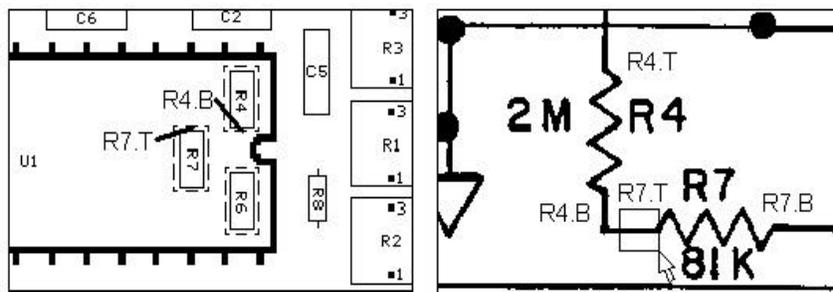

Figure 5. Example Schematic Worksheet and Area Learn Box
**These orientation relationships must be established by the developer for every component or point on the UUT for which a waveform will ultimately be collected.** This will be accomplished through the generation of a SCHEMATIC WORKSHEET. This Schematic Worksheet will consist of a hardcopy of the UUT schematic diagram on which the developer will record (write) the results of the component orientation investigation. An example of a completed Schematic Worksheet with component orientation labels recorded can be seen in Figure 5 below. A convention for recording these component orientation labels has been developed, and is shown in Table 2. When all of the needed points have been defined and labeled on the schematic worksheet, the actual learning of points on the **C:\TESTER\GRAPH01.PCX** file can begin.
**3.2.2 Learning Schematic Pins.** Once all of the component orientation relationships between the Parts Layout and the Schematic Diagram have been investigated, identified, and recorded on the Schematic Worksheet, the Schematic Learn itself is ready to proceed. This is started by double clicking on the **LEARNING THE SCHEMATIC FILE** icon in the **AN/PSM-93(V)** Development Folder in Program Manager (or in the AN/PSM-93(V) Development Folder for WIN '95). This will activate the **C:\WORK2\LRN\_SCM.EXE** file which will load and display the **GRAPH01.PCX** file that the developer generated and previously saved in the **C:\TESTER** directory.
**3.2.3 Defining Pin Areas.** The developer must learn, or define the area of the schematic diagram which will pertain to each pin. This is the area which will become a "hot-spot", or a spot on the schematic that a user will be able to click on when desiring to test this pin. This pin area learn is accomplished by drawing (clicking and dragging) a box at, or around the schematic location in question. (See Figure 5 below).
3.2.4 Assigning Pin Names. Once learned, the developer must give this newly learned area of the schematic a PIN NAME. This PIN NAME needs to be a description of the learned area or pin. For example, in Figure 5 above, the box to the left of R7 on the schematic shows the pin area just learned by the developer. This box on the schematic corresponds electrically to the top of the R7. During the establishment of the relationship between the UUT and the Schematic (see paragraph 3.2.1), the developer determined that this point on the schematic corresponds electrically to the bottom of R4, or the top of R7. The developer therefore hand recorded a working name for this pin on the Schematic Worksheet as "R7.T" at that time.
Returning to Figure 5 for an example: the node or point between the bottom of R4 and the top of R7 is an electrically equivalent point. If the component R7 were learned before component R4, this circuit node would have already been assigned both a Pin Name and a Node Name. The Pin Name would be "R7.T" and the Node Name would be "R7\_T". When the bottom of resistor R4 was learned, it would be given a Pin Name of "R4.B" but the Node Name of "R7\_T" would be retained. It is this node or point in the circuit, the point between R4 bottom and R7 top, that is identified by the Node Name "R7\_T", but its Pin Name depends on the component being dealt with (either R7 or R4 in this case). In a second example, if the node learned is edge pin P1.3, which is a positive 15 Volt input pin, a good descriptive PIN NAME would be "P1.3", and a good NODE NAME would be "POS\_15V" (See Figure 6 below). The Node Name "POS\_15V" is more descriptive of the physical circuit point at the pin P1.3 than a Node Name of "P1\_3" would be. Also, each point in the circuit that is electrically equivalent to P1.3 can now also be assigned a Node Name of "POS\_15V" rather than one of "P1\_3".